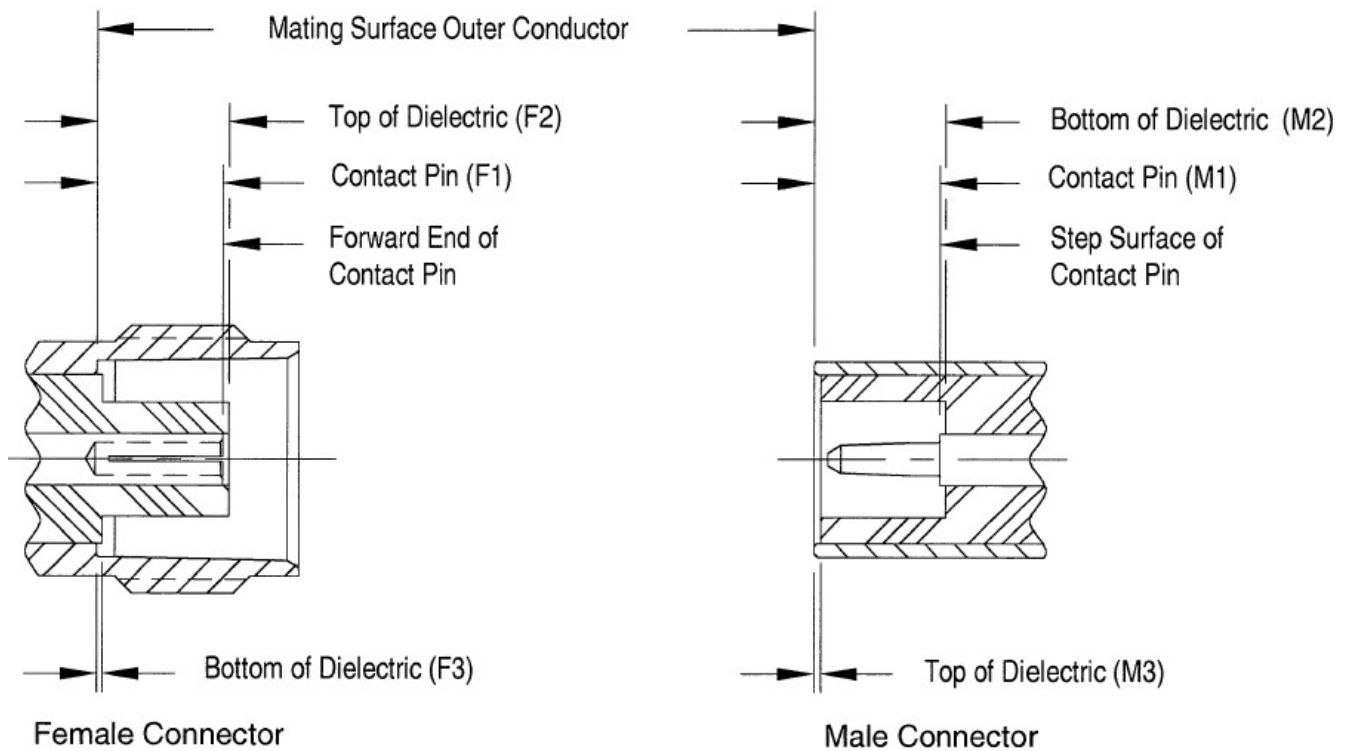
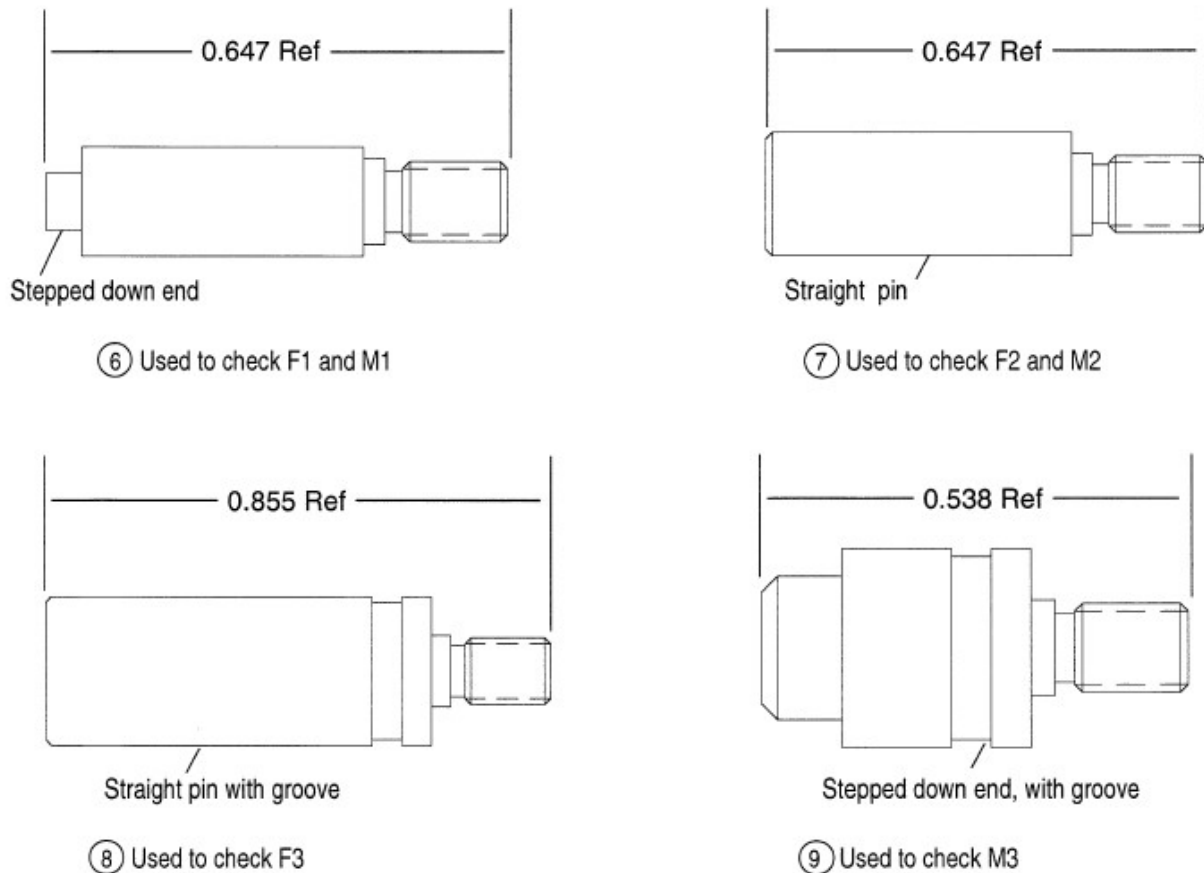

Figure 1. TNC Interface Dimensions
Figure 2. Pin Drawings for Visual Identification
The Maury model A012G connector gage kit is designed to measure the contact pin and dielectric location of all commonly used TNC/TNCA/BNC connectors. Generally, the TNC and BNC connectors are the same except the TNC is a screw on connector and the BNC is a bayonet type. Checking the interface dimensions requires three measurements for each connector to ensure the proper location of the contact pin and dielectric. These locations must be maintained within specifications for good electrical performance and to avoid connector damage when mated. **Figure 1** shows the interface dimensions measured with this A012G connector gage kit. **Table 1** gives the interface dimensions for the current industry standard TNC\TNCA and BNC connectors.
The Maury model A012G connector gage kit consists of the following components. Refer to **Figures 2 and 3**.
- ① & ② Indicator assembly - Adapter bushing attached to dial indicator.
- ③ Male bushing (marked BNC/TNC-M).
- ④ Female bushing (marked BNC/TNC-F).
- ⑤ Master setting gage (marked BNC/TNC-3).
- ⑥ Pin (stepped down end), see **Figure 2**.
- ⑦ Pin (straight), see **Figure 2**.
- ⑧ Pin (straight with groove), see **Figure 2**.
- ⑨ Pin (stepped down end with groove), see **Figure 2**.
- ⑩ A wooden instrument case.
- ⑪ Allen wrench (4-40).
Several examples are given below for gaging BNC/TNC connectors. Refer to **Figure 1** for the interface dimensions described. See **Figures 2** and **3** for descriptions of circled items.